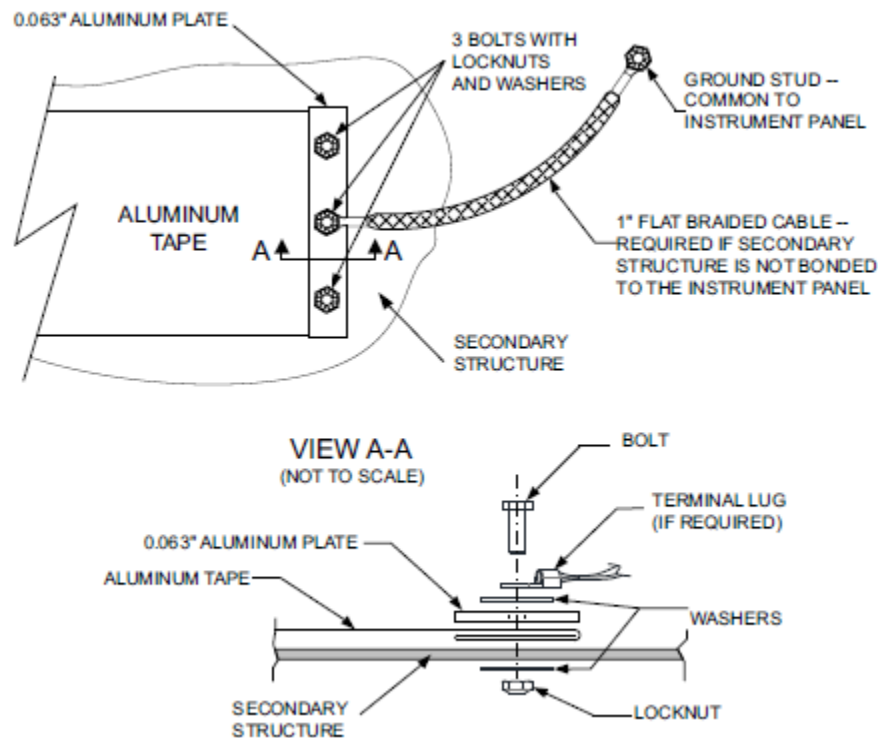

Figure 4-61 Aluminum Tape Ground Termination
8. Fold the end of the tape over twice for added thickness at the prepared grounding location. Refer to Figure 4-61. Apply 3" wide tape over the seam as shown.
11. If a bonding strap will be used to reach the grounding location, secure the end of the tape to the secondary composite surface as shown in Figure 4-61. Note that the procedure for installing mounting bolts applies only to secondary aircraft structures, not to primary structure or structural load-carrying members. The tape shall meet 5:1 length to width ratio if a bonding strap is used. The bonding strap shall be one inch wide and no longer than five inches. Refer to Figure 4-61.
14. Secure the end of the tape in place using a 0.063" piece of aluminum using three bolts and nuts. Refer to Figure 4-61.